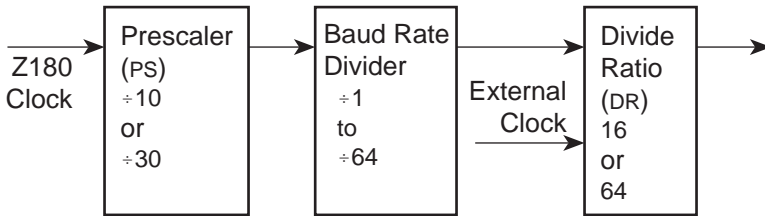

Figure 4-14. Baud-Rate Generator
The prescaler (PS) the divide ratio (DR) and the SS bits form a baud-rate generator, as shown in Figure 4-14.